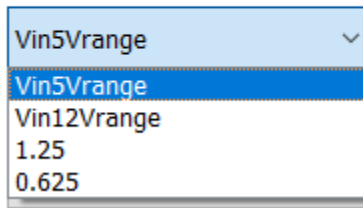

Fig.9 Flux Ref Voltage pull-down menu
The Flux Ref Voltage (V) pull down menu (Fig.9) allows changing the flux time dependency on the Vin. The following bullet points give description for each of the selection options.